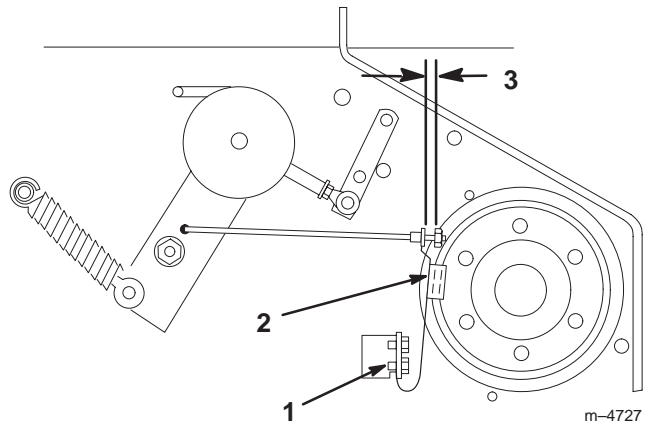

Figure 50
2. If necessary, adjust the spring mounting bolts so that the blade brake pad rubs against the pulley edges (Fig. 50).
3. Adjust the nut at the end of the blade brake rod until there is 1/8–3/16 in. (3mm–5mm) between the nut and spacer (Fig. 50).